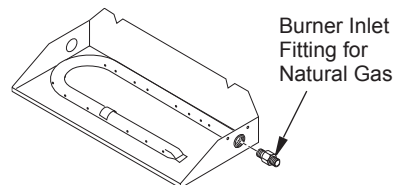

Figure 13 - Remove Burner Inlet Fitting
4. Using thread sealant (resistant to the action of propane/LP gas) on larger end of fitting, screw the burner inlet fitting through hole and into burner manifold (see Figure 13). Tighten using a wrench.